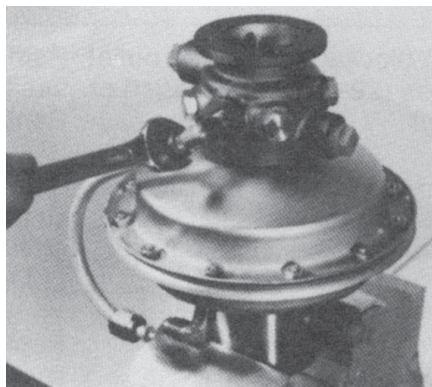
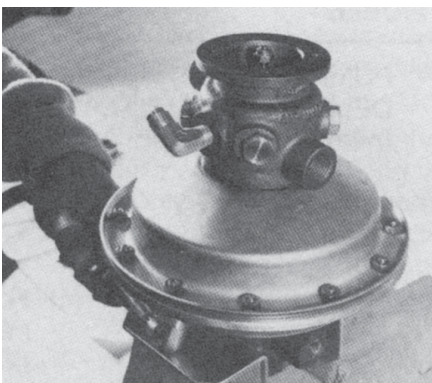

Figure 4-3 Removing tube assembly.
Figure 4-4 Applying air pressure to raise air piston and rod.
4.4 Remove tube assembly (48) by removing the two fittings from the two 90° elbows on the upper and lower housing. See Figure 4-3. Do not remove elbows. Apply air hose and air pressure to lower 90° elbow to raise air piston (14) and shuttle (4A) to upper position. See Figure 4-4.